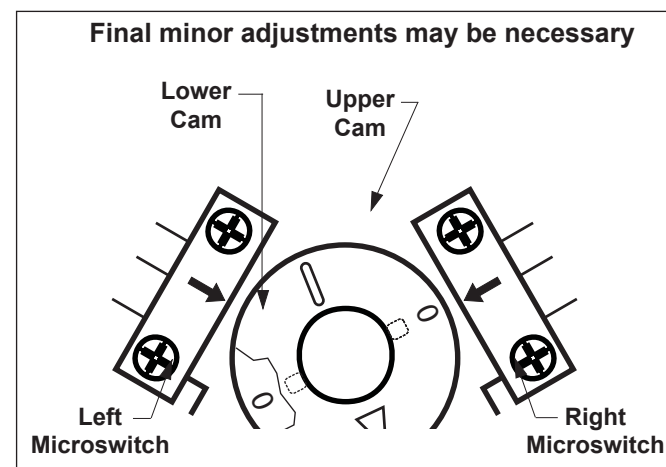

Figure 9. JVA Cams
2. Remove the four (4) Phillips head screws that secure the actuator lid and then remove the lid.
3. Rotate the actuator shaft so the arrow mark on the top cam aligns with the microswitch actuator (bottom cam arrow mark should also align with the bottom microswitch actuator, see Figure 9).